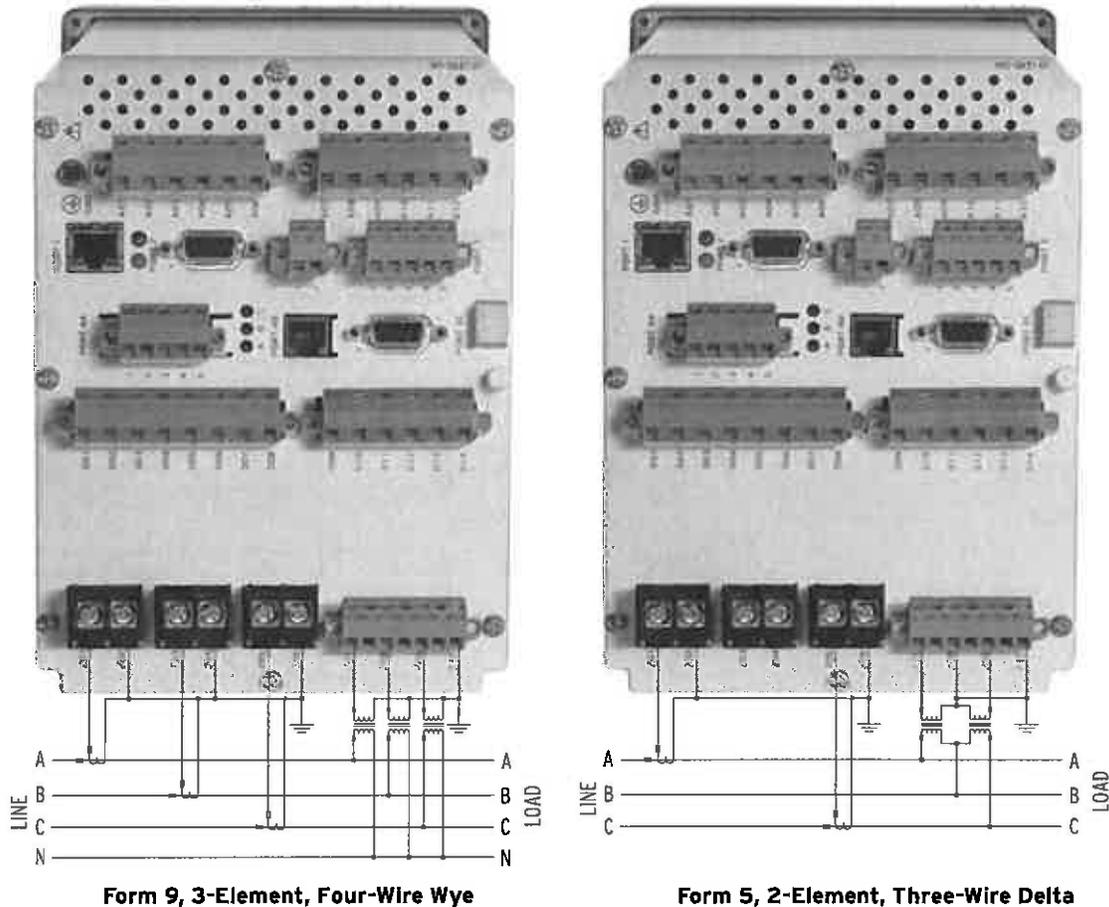

Figure 2.6 Four-Wire Wye and Three-Wire Delta Wiring Diagrams
- Step 4. Refer to Table 2.1 and Figure 2.6 and connect all necessary rear-panel connections. Ensure that connected circuits conform to the SEL-735 specifications, given in *Specifications* on page 1.6.